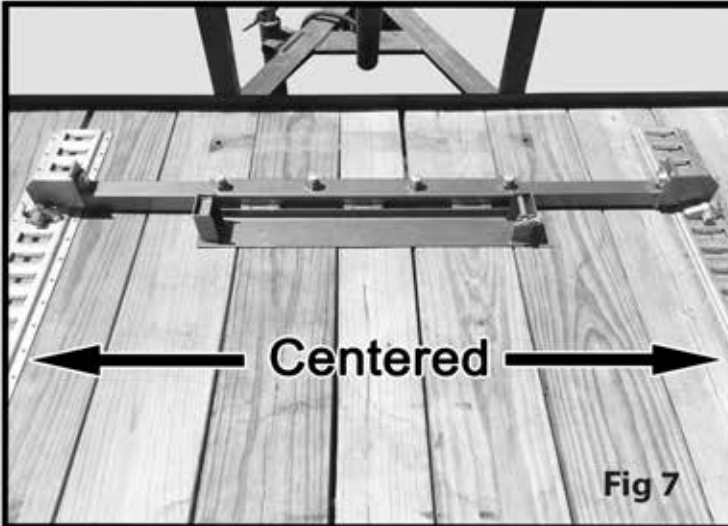

Fig 7
- Extend the Right and Left Slide Tubes and position the E-Track Fittings over the E-Track Rails (Fig 7)